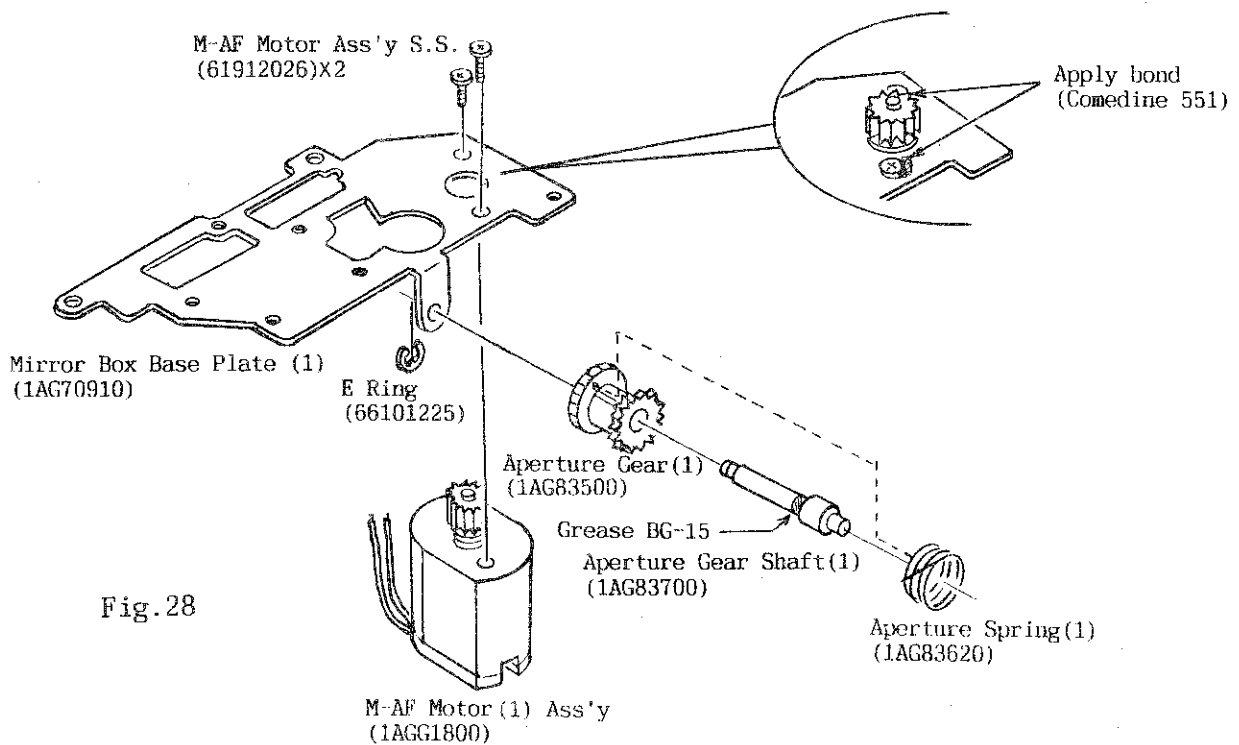

Fig.28
- a) Make sure that the Aperture Spring (1) (1AG83620) is inserted in the hole of the Aperture Gear (1) (1AG83500). After that, with the Aperture Spring (1) in the position as shown in Fig.28, install the M - Box Base Plate (1) with the M - AF Motor (1) in the Mirror Box.